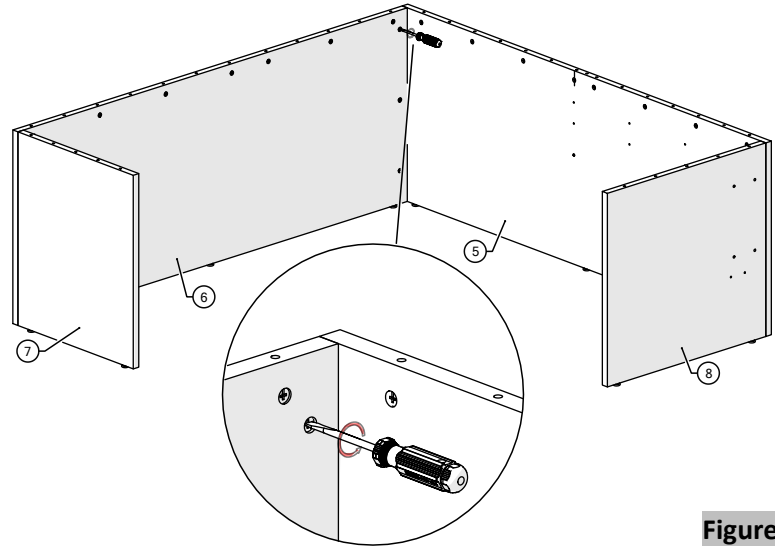

Figure 7
7. Turn the Cams using a screwdriver in a clockwise direction to smoothly lock the modesty front, modesty return, gable LH, and gable RH together (Figure 7).